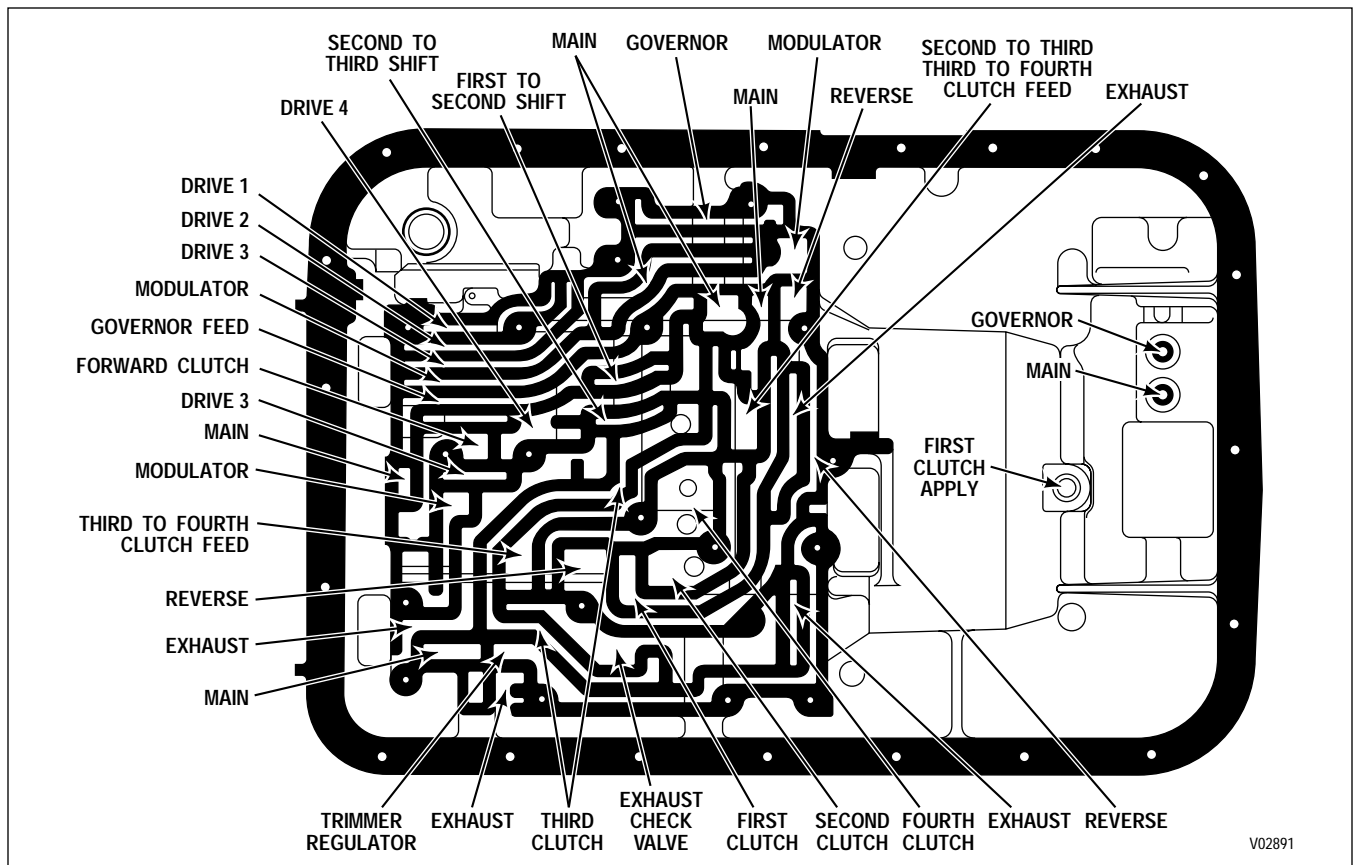

Figure 4-5. Transmission Housing — Main Control Valve Body Mounting Surface Tracks
(8) Inspect the hydraulic circuit tracks in the valve bod(ies) and transmission housing main control valve body mounting surface for porosity, broken lands, cracks, dirt, and land surface imperfections. The tracks identified in Figure 4-5 will assist in locating troubled areas.